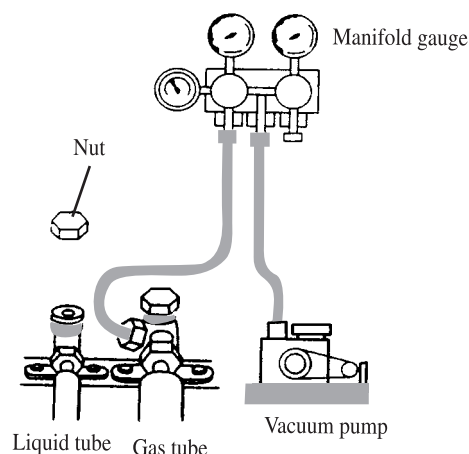

Fig.10
- 6.If possible, discharge air and moisture remaining in the refrigerant system with a vacuum pump. (shown in Fig.10)